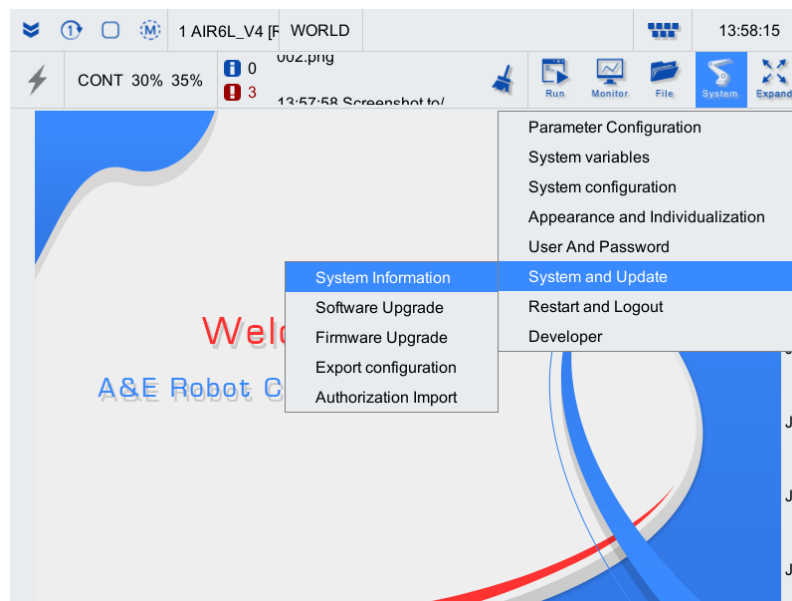

Fig. 3-11 Main interface of teach pendant
- Step 3. Click the "System" button in the top right corner on main interface of the teach pendant, and then select the "System and Update"-"> "Authorization Import" option in the drop-down list, as shown in Fig. 3-11.